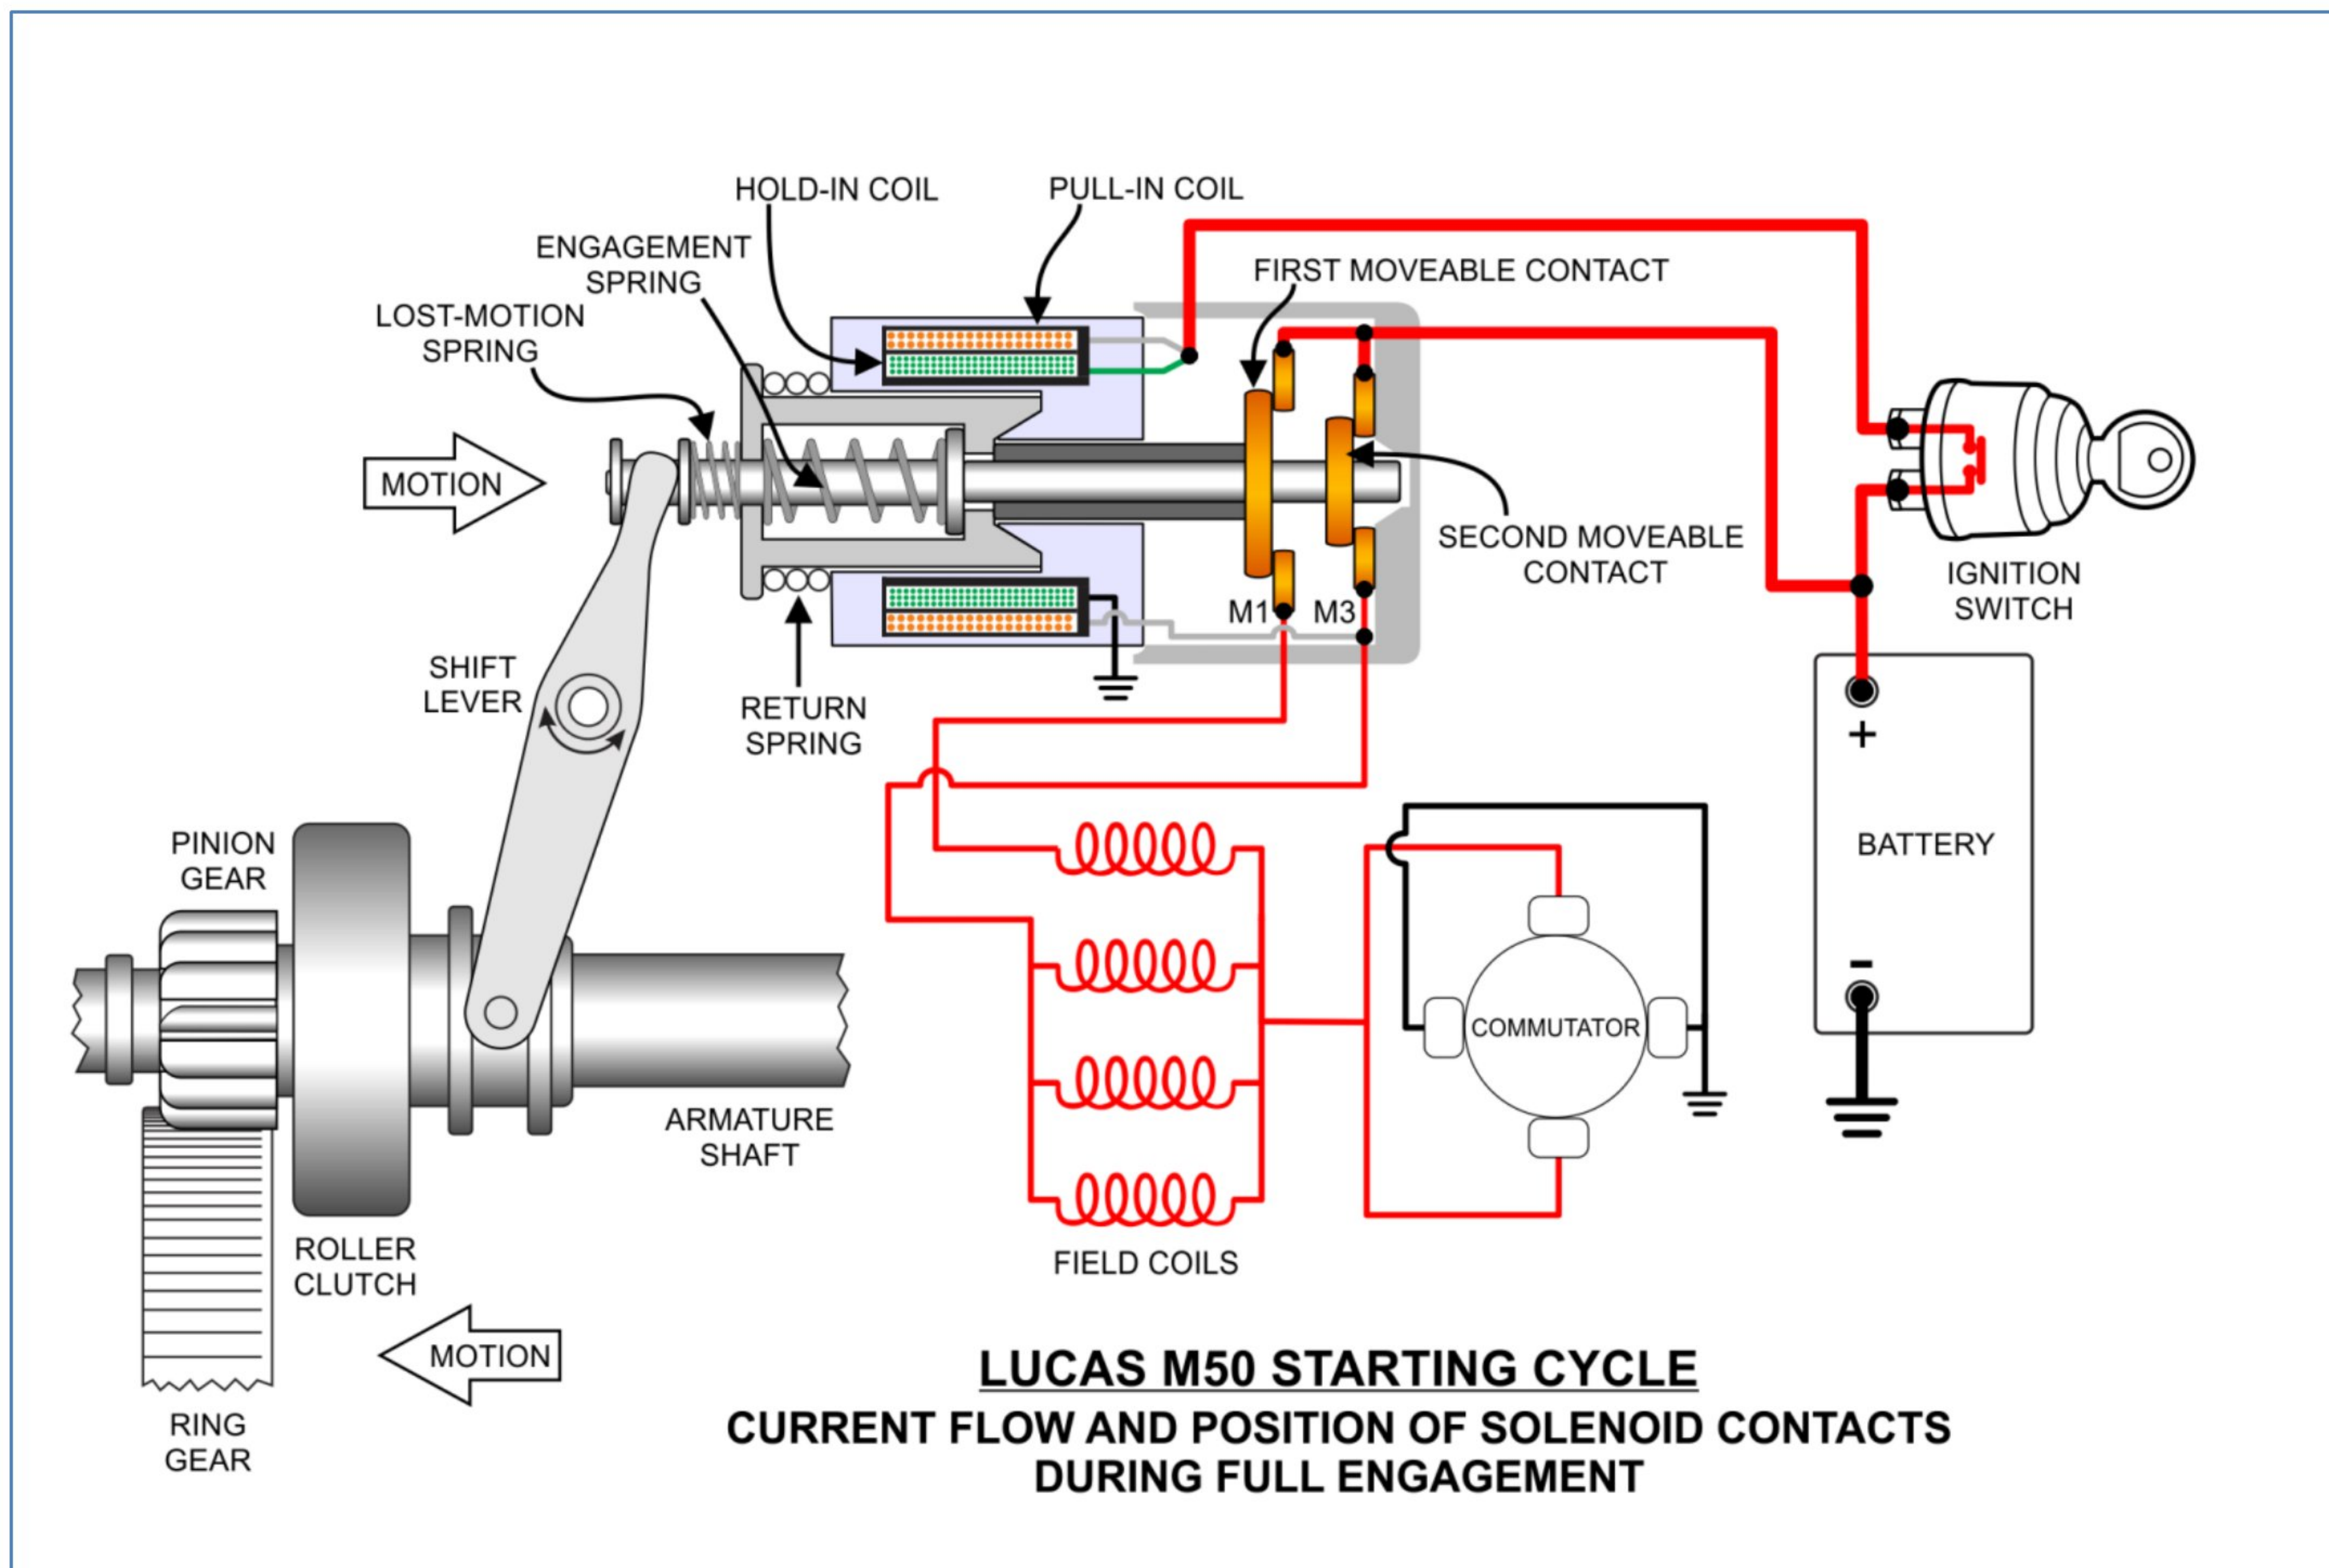

Figure 9—Starter Drive is Fully Engaged
Step 2: As the armature rotates slowly, it clears the abutment position and engages the ring gear fully (see Figure 9). The linkage then allows the M3 contacts to close, giving full power to the remaining 3 field coils, allowing the starter to properly crank the engine.